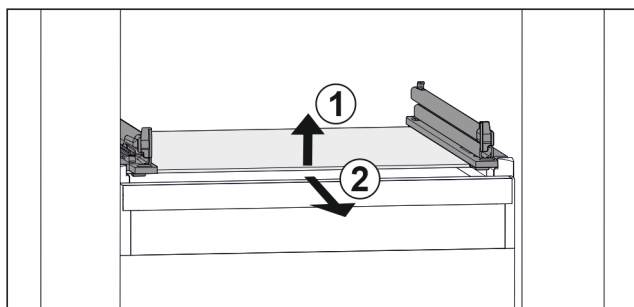

Fig. 109 Example illustration of glass shelf
- Lift glass shelf at the front. Fig. 109 (1)
- Remove glass shelf to the front. Fig. 109 (2)